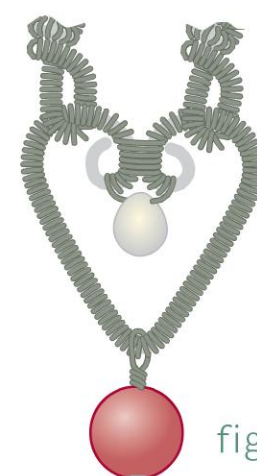

figure 9
- 2 2** Slide an 8mm garnet onto the head pin. Form a wrapped loop that attaches to the bottom point of the heart pendant (Figure 9).